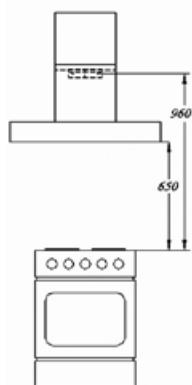

Fig. 3
1. Mark the minimum required assembly height on the wall behind the hotplate (650 mm for electric, and 700 mm for gas hotplates, Fig. 3).
3. Drill holes, fix wall holder (D) at the required height using the supplied wall plugs (G) and screws (H) (960 mm for electric and 1010 mm for gas hotplates, Fig. 3).